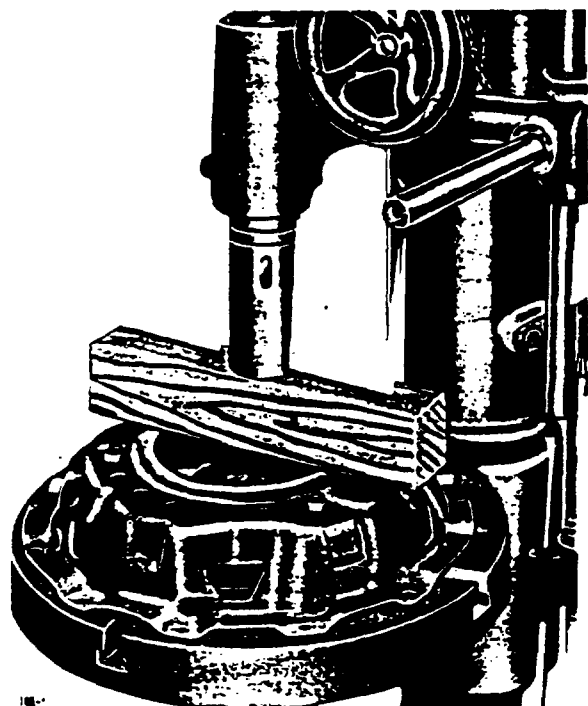

Figure 4-10. Compressing Clutch
4. Place a block of wood, such as a two by four, across cover plate in a position that does not interfere with tips of release levers, as shown in Figure 4-10. Compress clutch assembly slightly, removing lever adjusting screw locknuts.